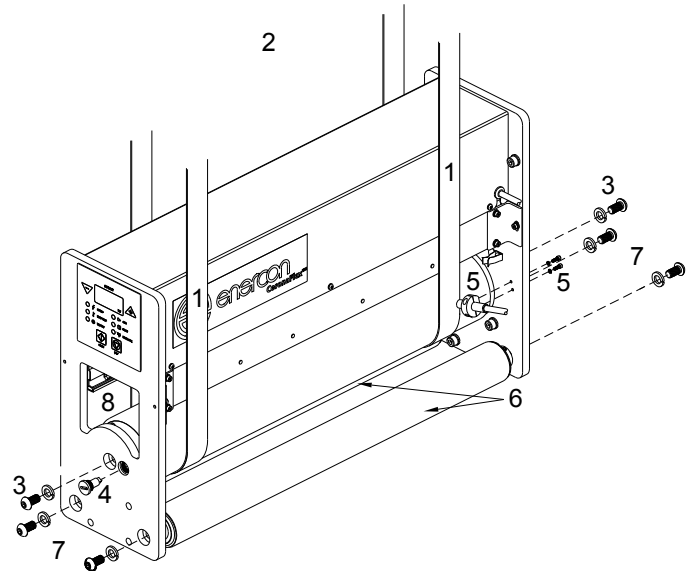

Figure 49
Using a sling strap (1) and chain fall (2) – not shown, move the ground roll into position beneath the station frame, and carefully lift it into place within the frame (**Figure 49**).